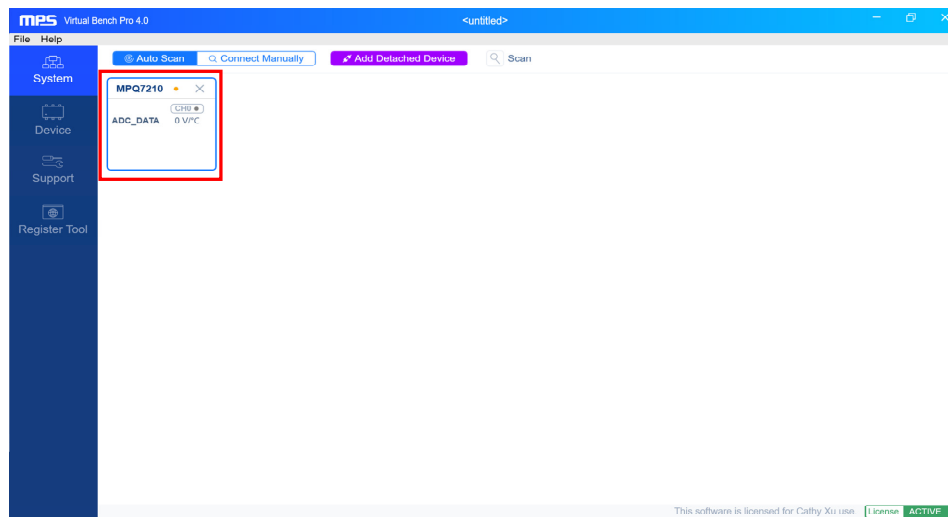

Figure 8: Selecting the MPQ7210 in Virtual Bench Pro 4.0
14. Double-click the MPQ7210 window (see Figure 8 on page 7).